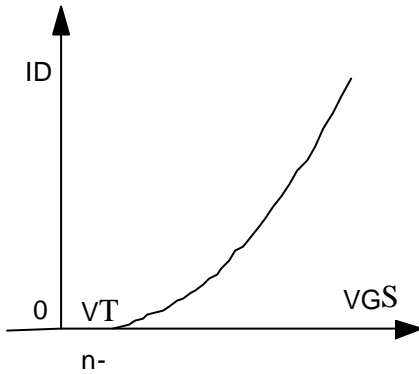

Figure 6 Transfer characteristic of N-Channel MOSFET
Figure 6 shows the output characteristics of an N-channel MOSFET. There are three regions of operation: (1) cutoff region, where $V_{GS} < V_T$; (2) pinch-off or saturation region, where $V_{DS} > V_{GS} - V_T$; (3) linear region, where $V_{DS} < V_{GS} - V_T$, due to high drain current and low drain voltage, the power MOSFETs are operated in the linear region for switching actions.